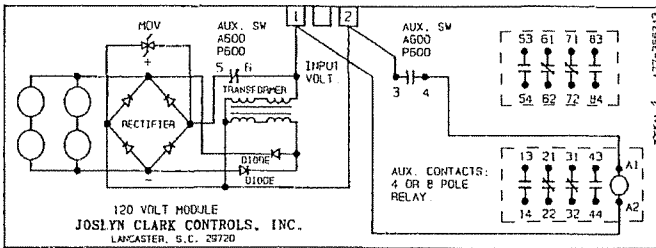
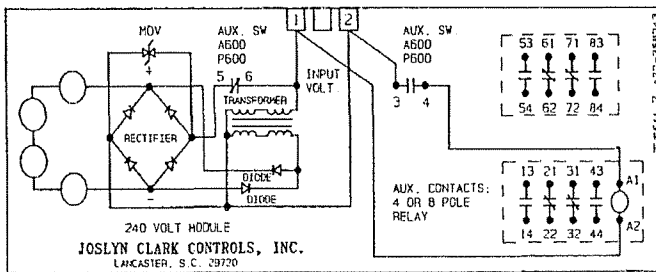

Fig 6
Fig 7
Contactors are available suitable for 120V or 240 Ac 50/400 Hz input control supply. Voltages are **not** field reconnectable. The ac. supply is connected to terminals 1 & 2 see Fig 6 & Fig 7 showing the diagram for 120V or 240V connections respectively which is as shown in the decal on the contactor. Note the 1100A contactor has two (2) modules and therefore twice as many aux. contacts are available, refer to the schematic below for full terminal data.